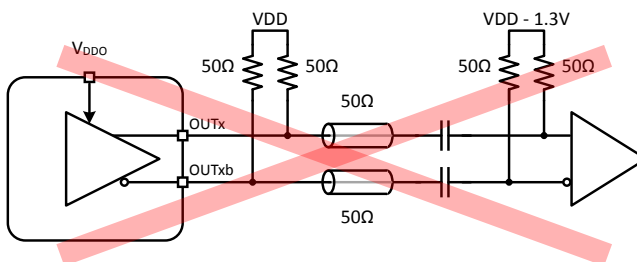

Figure 2.5. Incorrect CML Termination
- Pull-up resistors at the source should NOT be added, according to Figure 2.5 Incorrect CML Termination on page 5.